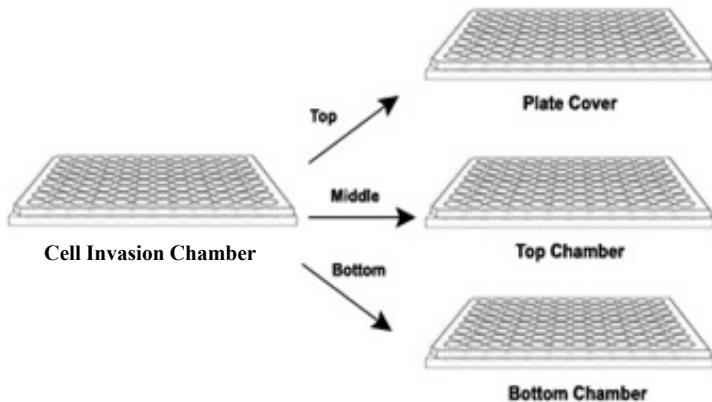

Figure 1. Cell Invasion plate: The cells are added to the Top Chamber and the Control Invasion Inducer or chemoattractant are added to the Bottom Chamber.
9. Under sterile conditions, disassemble the Cell Invasion Chamber and carefully remove the plate cover and the top chamber (figure 1).